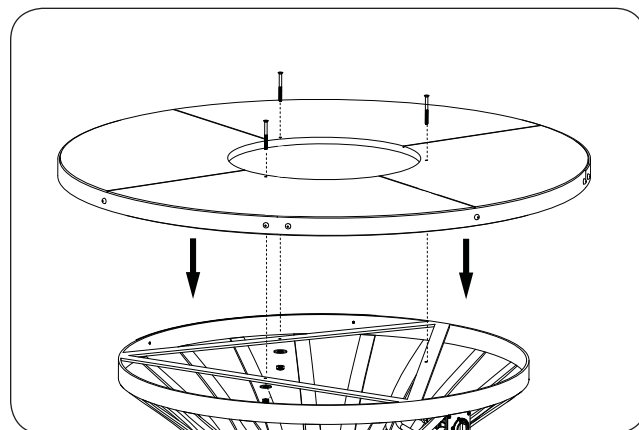

Fig. 28-3 Place top and fasten
4. **CAREFULLY** place the top on the unit, ensuring that the holes in the top piece align with the holes found in the bracket below (see Fig. 28-3).
5. Use a Phillips screwdriver and the supplied bolts (3), nuts (3), and washers (3) to fasten the top to the bracket as shown in Fig. 28-3.